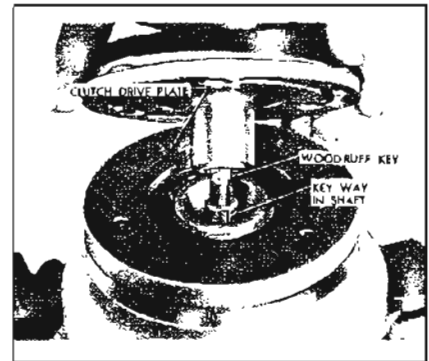

Figure 11-59—Positioning Clutch Drive Plate on Shaft
14. Insert woodruff key into hub of clutch drive plate so that it projects out approximately 3/16 inch (see Figure 11-59) and position clutch drive plate onto shaft.